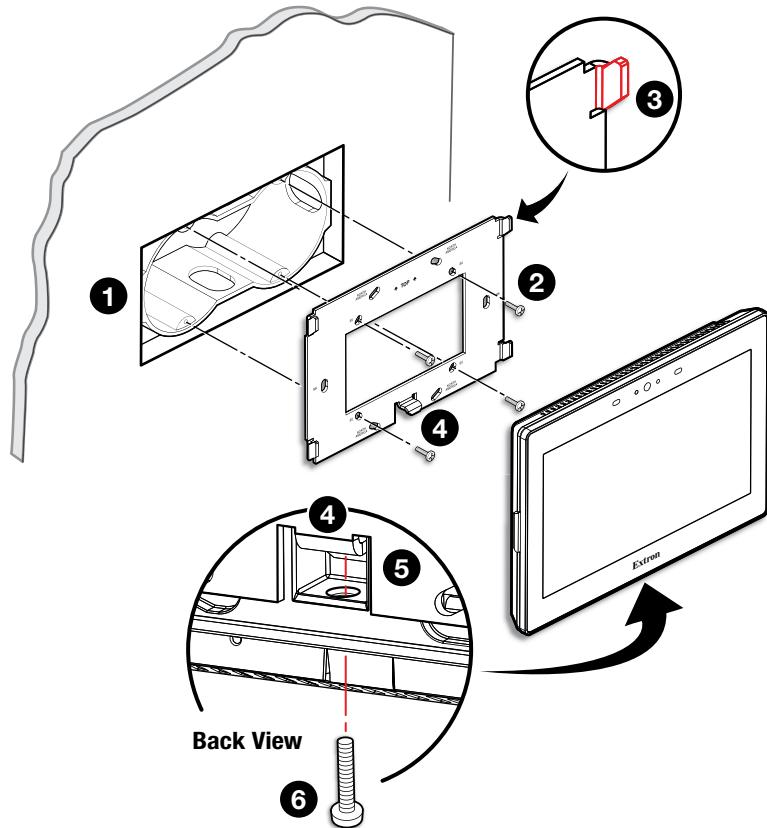

Figure 23. Mounting the Z RTP Pro 725M to a Wall Box (left) and Mounting Plate (right)
Figure 23 shows how to mount the Z RTP Pro 725M. Mounting the Z RTP Pro 1025M is very similar.
1. Install a junction box or wall box (see figure 23, ①), following the instructions provided by the manufacturer.
4. Position the touch panel so that the mounting slots in the rear of the touchpanel align with the hooks on the mounting plate. The Z RTP Pro 725M and 1025M mounting plate has four hooks (see figure 23, ③), one in each corner, top and bottom.
6. Move the touchpanel down so that touchpanel is seated securely on the hooks and the tongue at the bottom of the mounting plate (④) is sitting in a groove in the bottom of the touchpanel (see inset, ⑤).
7. Tighten the mounting screw (⑥) to fasten the touchpanel to the mounting plate.
3. Cut a hole in the wall or furniture (see **figure 23**, ①, on page 21).